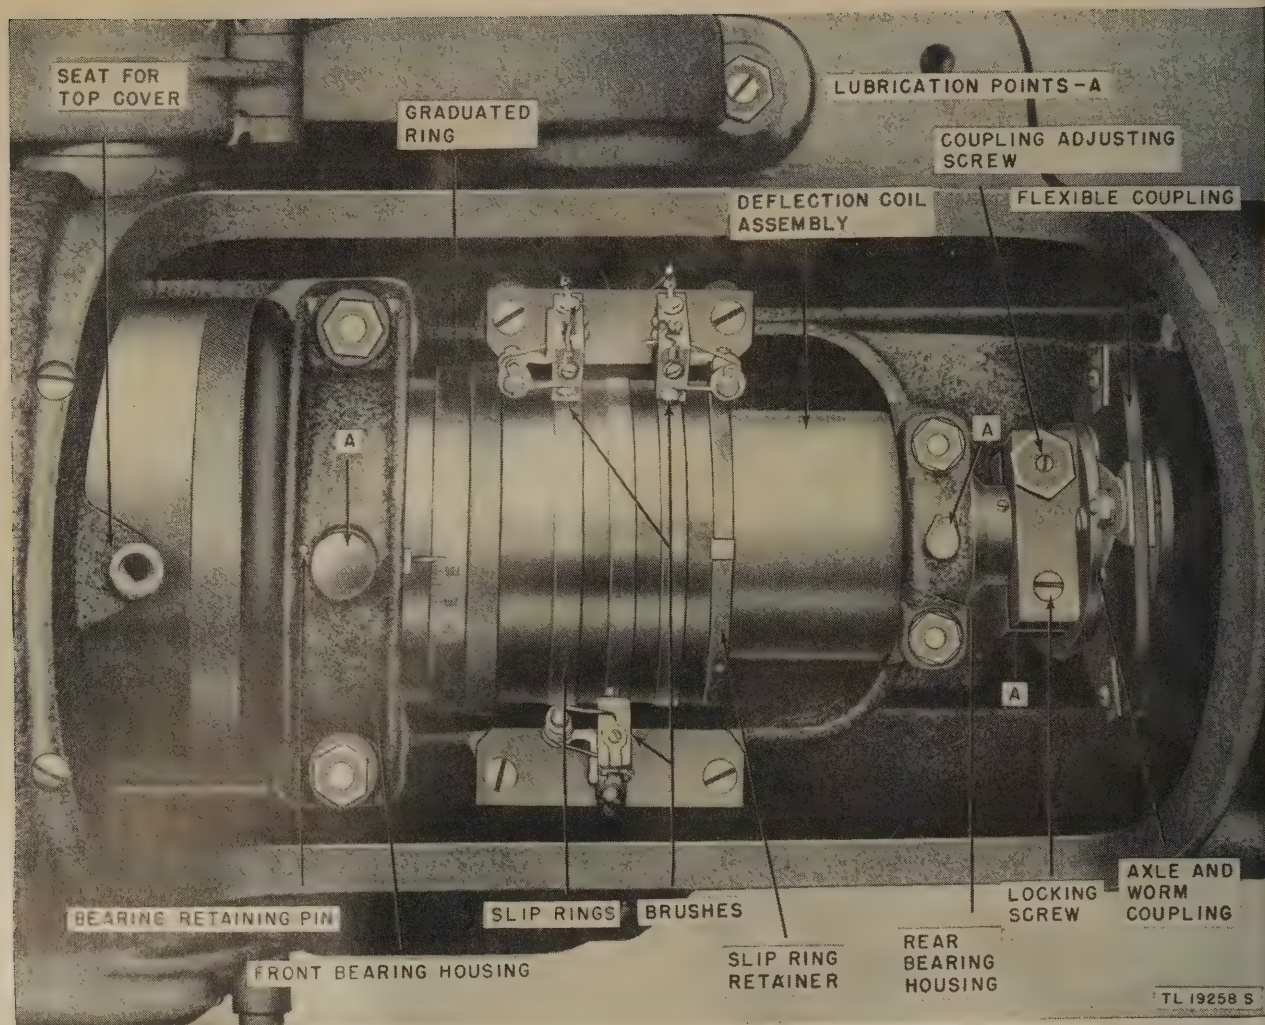
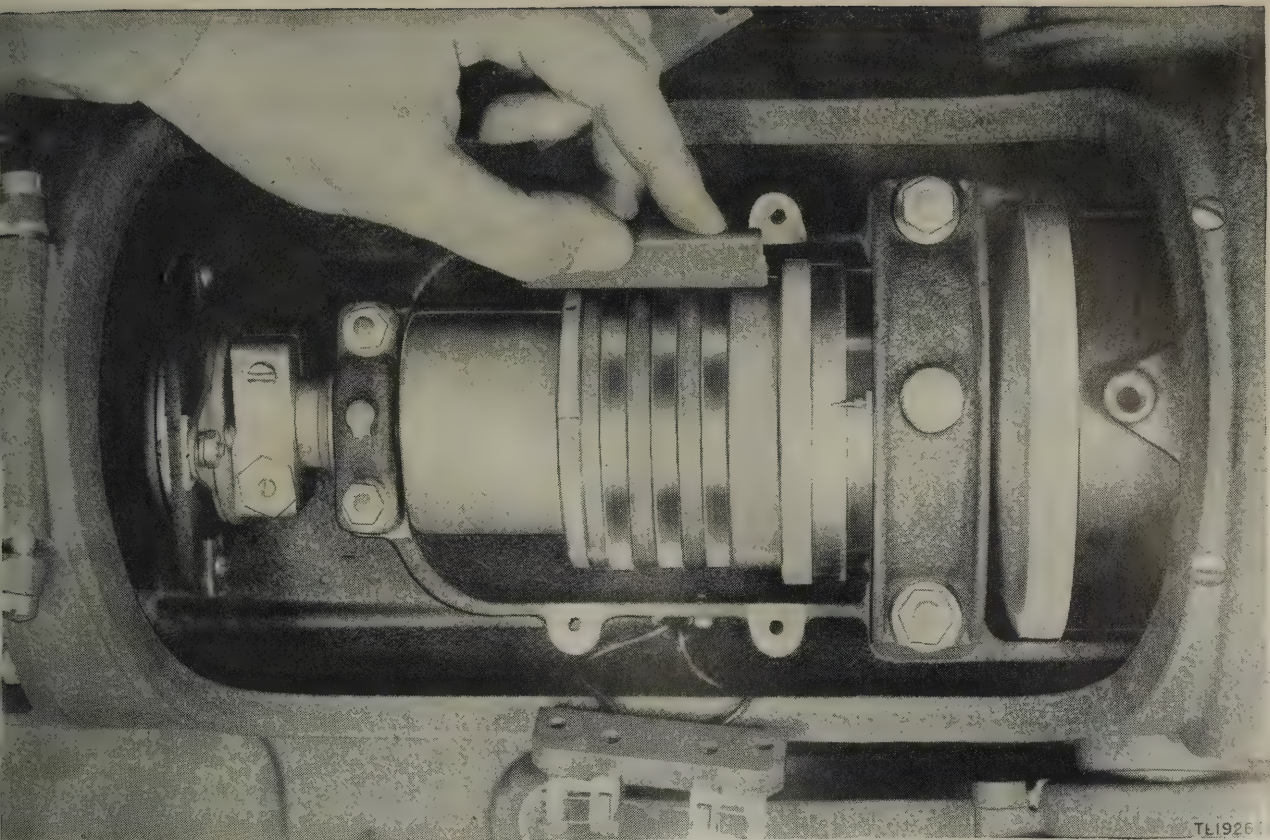

Figure 121. Bearing Indicator BC-1159-A, deflection coil assembly.
Figure 124. Bearing Indicator BC-1159-A, polishing slip rings.
#### 114. Deflection Coil Assembly (fig. 121)
- (5) After the mount has been thoroughly cleaned, replace the brush holders.
*d. POLISHING SLIP RINGS* (fig. 124). Normally, a light brown oxide film forms on the slip rings. The oxide coating is beneficial and should not be removed. However, it is necessary to distinguish between the normal oxide film and a coating of tarnish, which is harmful. Slip rings with only an oxide coating are shiny, but tarnished slip rings have a dull, dirty appearance. To remove the tarnish and to polish the slip rings, proceed as follows:
- (1) Throw the POWER switch to its OFF position.
- (2) Remove the brush holders (*b* above).
- (3) Wrap a piece of crocus cloth around a 2- by  $\frac{3}{4}$ - by  $\frac{1}{8}$ -inch block of bakelite (or other stiff, smooth-surfaced material).
- (4) Throw the MOTOR switch to ON, and, with the indicator running, press the block and crocus cloth against the slip rings (fig. 124) to remove pitting and scoring and to give the slip rings a mirror finish.
- (5) Before stopping the indicator, clean the slip rings (*b* above).
*e. TIGHTENING SLIP RINGS.* The slip rings can be tightened by means of the slip ring retainer (fig. 121). The tightening procedure is as follows:
*g. BRUSHES* (fig. 121). The bearing indicator brushes should be inspected at least once a week. Examine the brushes for improper seating against the slip rings and for dirt and grease. Improper seating of the brushes against the slip rings causes excessive wearing of both the brushes and the slip rings. The PM procedure includes the following:
- (1) Remove the brushes from the brush holders and clean them with a pad saturated in carbon tetrachloride. Each brush should be replaced in the holder from which it was removed, because a brush will not fit properly against the slip ring beneath a different holder.
- (2) Check the brushes for freedom of motion in the brush holders. Only the spring pressure arm should affect the brush movement. If a brush binds in its holder, remove the brush and clean the holder carefully. Also examine the brush for cracks and crumbling edges. Defective brushes should be replaced.
- (3) Inspect the brush pigtails (flexible leads) for corrosion, broken strands, and flexibility. Tighten connections to the brush holders and leave sufficient lead length to permit free movement of the brushes.
- (4) Examine the brush spring arm of the brush holder. If bent, or if scraping against the sides of the holder, the spring arm should be straightened so that it rides freely in the center of the brush slot.
- (5) The correct brush pressure is  $2\frac{1}{2}$  ounces (checked with a spring gage). To adjust the spring arm for the required pressure, wind or unwind the spring coil. Never bend the spring arm.
- (6) Before placing a new brush in a brush holder, grind the brush to fit the slip ring. Use the following procedure for grinding in a new brush: